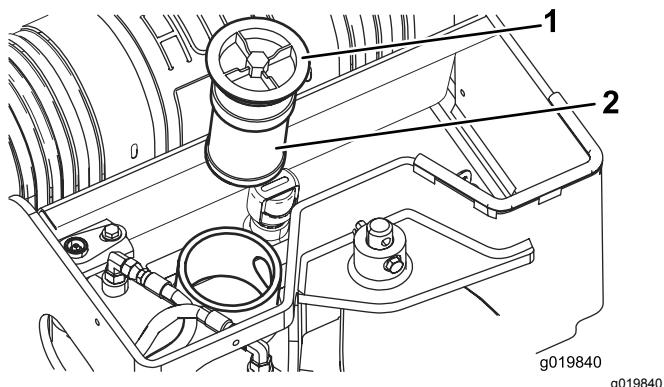

Figure 61
4. Remove and discard the old filter (Figure 61).
5. Install the replacement hydraulic filter and filler cap (Figure 61) and torque the bolt on top to 21 to 25 N·m (200 to 240 inch-lb).
5. Remove the hydraulic-tank filler cap and filter (Figure 61).
10. Install the hydraulic filter and filler cap (Figure 61) and torque bolt on top to 21 to 25 N·m (200 to 240 inch-lb).